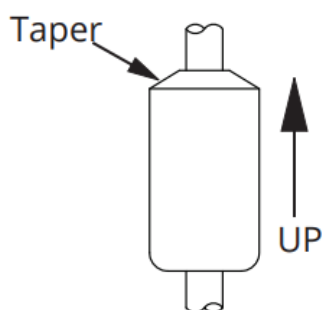

Figure 5.1
- The float(s) is/are oriented properly on the stem (See Figure 5.1 below). MPI-T floats are typically installed by customer.